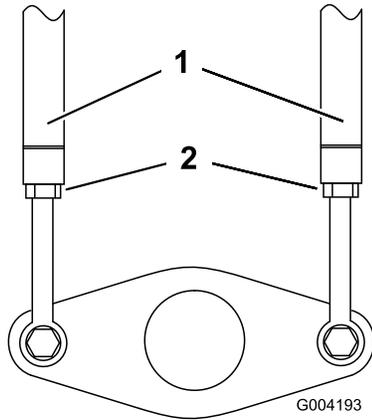

Figure 47
3. Loosen the jam nuts on the traction rods, under the control panel (Figure 47).